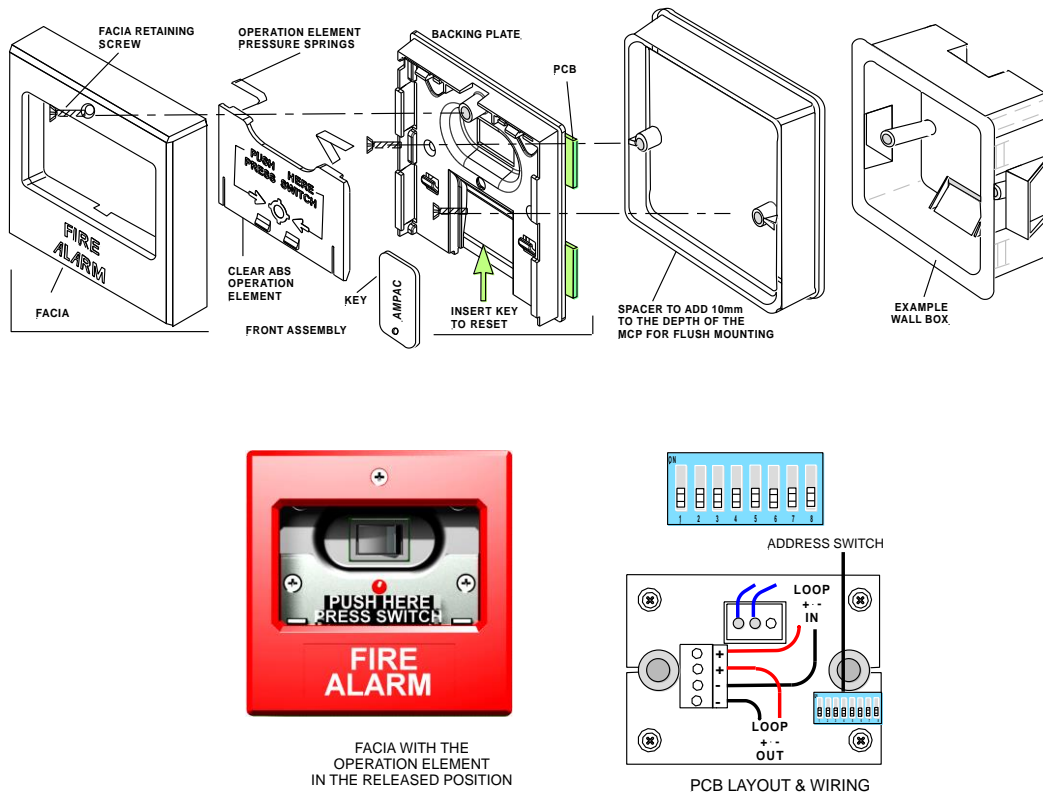
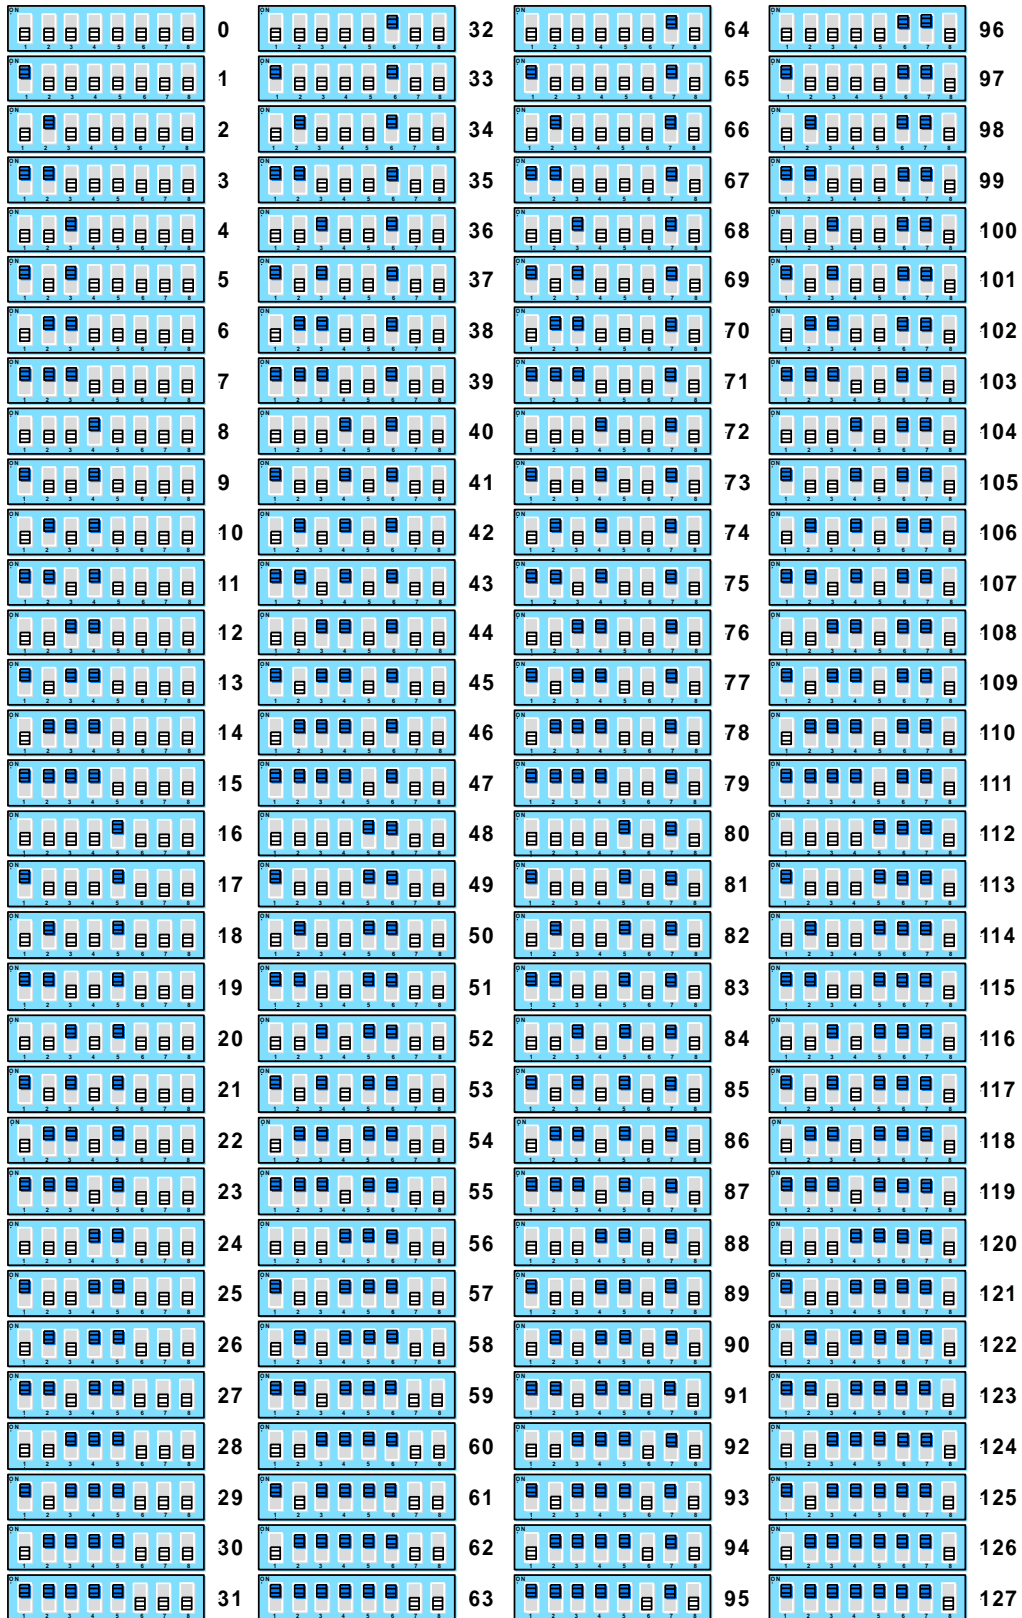

Figure 1: General Wiring Diagram
Figure 2: Address Switch Settings
2. Set the address of the MCP (See Figure 2)
3. Place the spacer to the back of the MCP as shown above and terminate the cables (See Figure 1)
4. Fix the backing plate and spacer to the wall box using two (2) appropriately sized fixing screws
5. Set the address of the MCP (See Figure 2)
6. Remove the two (2) thread protection plugs from the mounting box and fix the backing plate to it using the two (2) fixing screws supplied
7. Replace the facia by inserting the two (2) bottom locating pegs of the facia up into the bottom of the locating holes of the backing plate, close at the top, tighten the retaining screw then insert the key (as shown) to reset the operation element